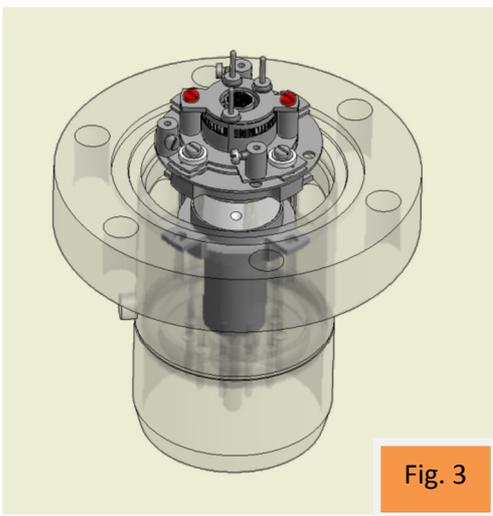

Fig. 3
4. Remove the two M2 x4 pan head screws highlighted in red holding the filament plate in place, see Fig.3.